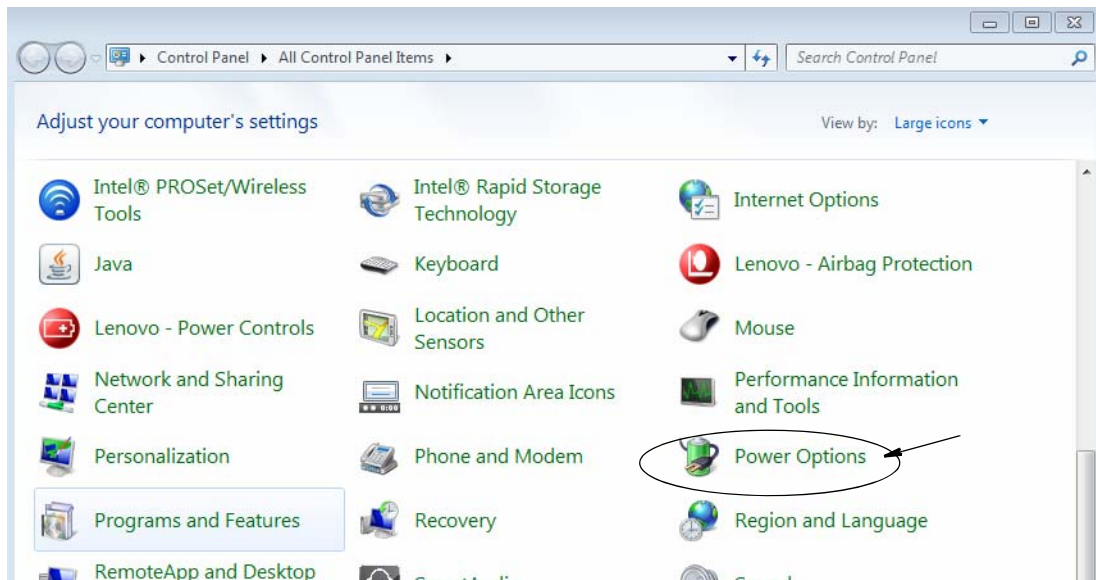

FIG. 55
2. Select the Power Options icon (FIG. 55).